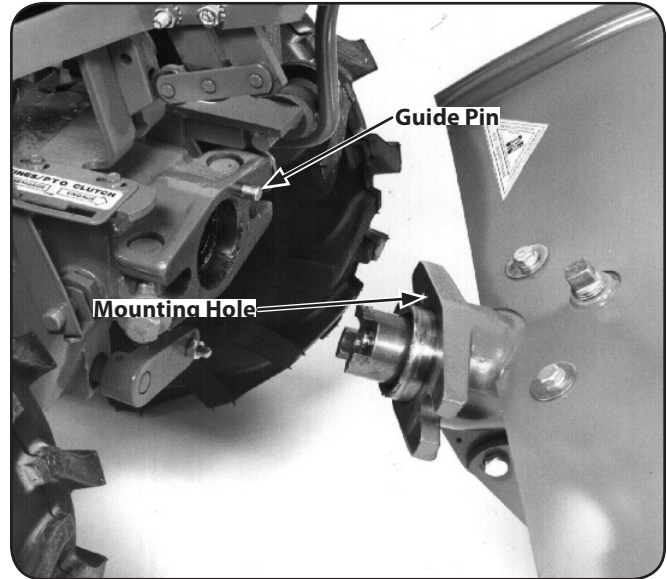

Figure 5-23
- The guide pin on the power unit will slide out of the guide hole in the tine attachment. See Figure 5-23.
- Carefully align the guide pin on the PTO Power Unit with the alignment hole in the tine attachment and bring the two units together. See Figure 5-23.